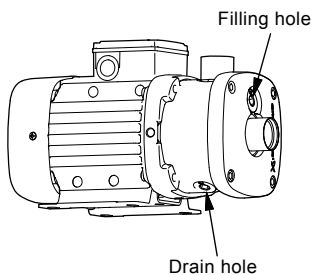

Fig. 10 Position of filling hole and drain hole
3. Remove the filling plug. See fig. 10.
Remove the filling and drain plugs from the pump. See fig. 10.